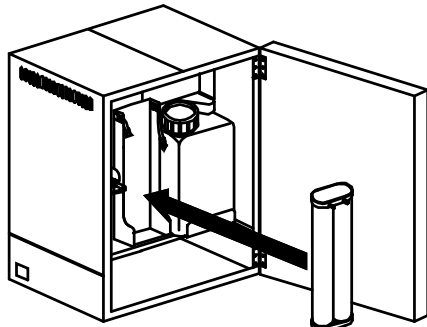

Fig. 01
- (1) Make sure that ELB on unit is "OFF (○)" and that water tap is closed.
- (2) Take out ion-exchange resin cartridge from among the accessories.
- (3) Install ion-exchange resin cartridge (CPC-S) on the mount in unit (Fig. 01).